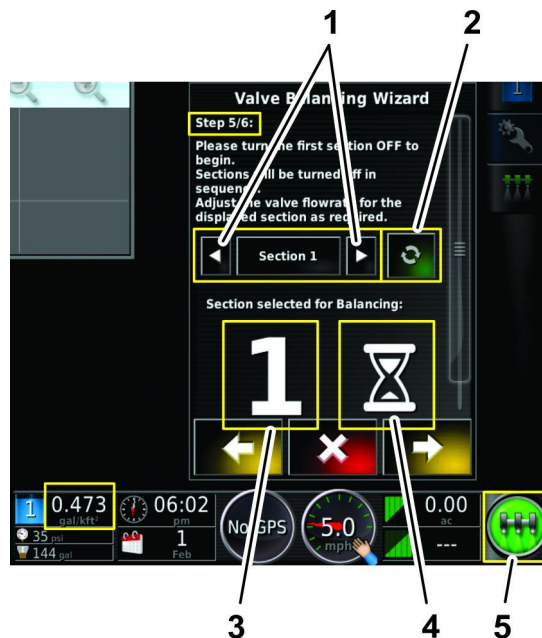

Figure 144
- Wait for the GeoLink software to process the flow-rate action (Figure 144).